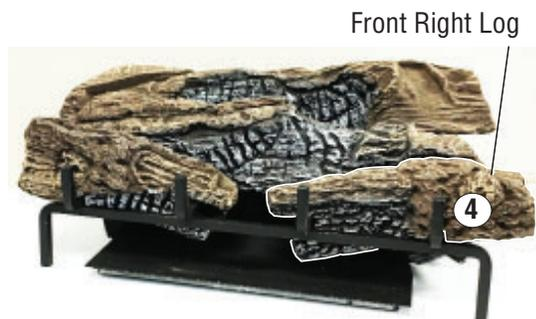

Figure 44 - Installing Log #4
4. Place the front right log (#4) onto the base assembly between the middle log and the grate. The back of the front right log will rest against the front of the middle log. The notch in the end of the front right log will fit around the grate bar. See **Figure 44**.